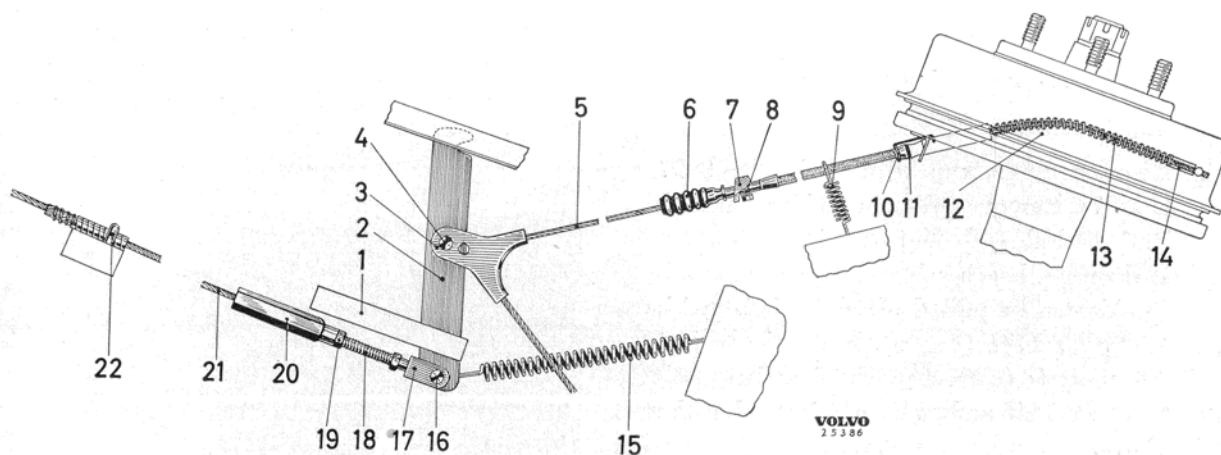

Fig. 6. Part of handbrake system.
The movement of the control device is transmitted through the front brake cable (21, Fig. 6) to the intermediate lever (2). From there the movement continues via the equalizing link (3) and rear brake cable (5) to the rear wheel brake unit levers (2, Fig. 32). The upper end of the lever is attached to the rear brake shoe. When the lever is pulled forward the shoes are forced outwards with the help of the link (1) thereby applying the brakes.